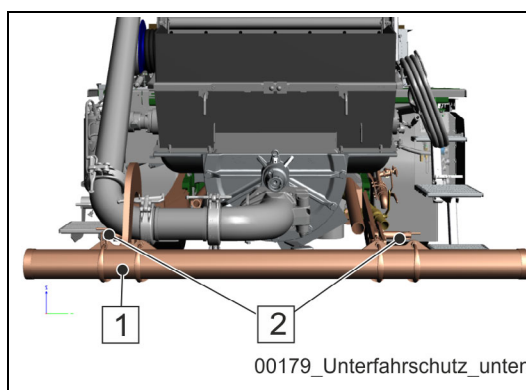
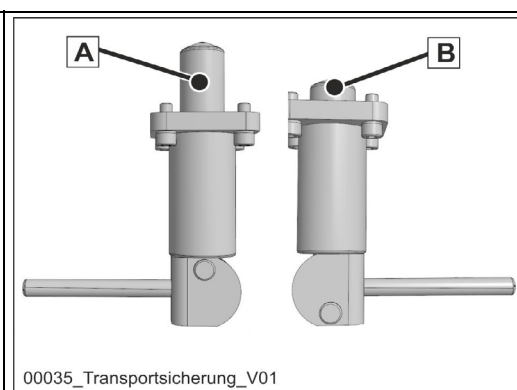

Fig. 160 Underride protection in transport position
Fig. 161 "A" = secured / "B" = released
The underride protection (1) is in the drive position (**Fig. 160**).
- Release both locks (2) (**Fig. 160**) on the underride protection (**Fig. 161**).